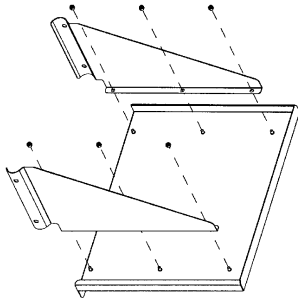

figure 1
- (1) Assemble left and right brackets to studs. Thread locknuts (6) onto studs. Leave finger tight. *See figure 1.*